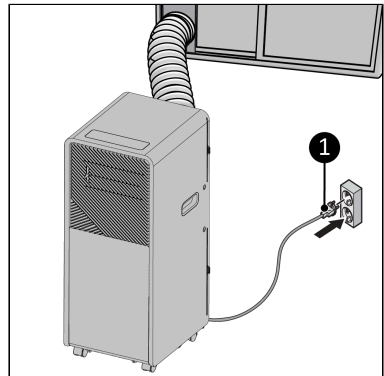

Figure 33.
8. Place the power plug (Figure 33, pos. 1) into an earthed wall socket that is easily accessible. Use an earthed wall socket with a minimum power of: